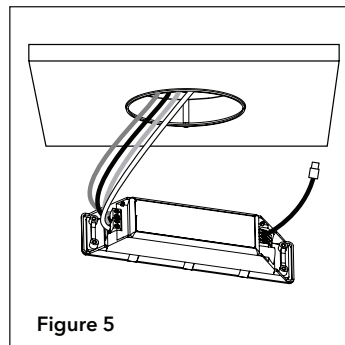

Figure 5
Step 5. Remove mud ring plug. Pull line, ground, neutral, and dimming lines through ceiling opening and connect to power supply (Fig. 5).